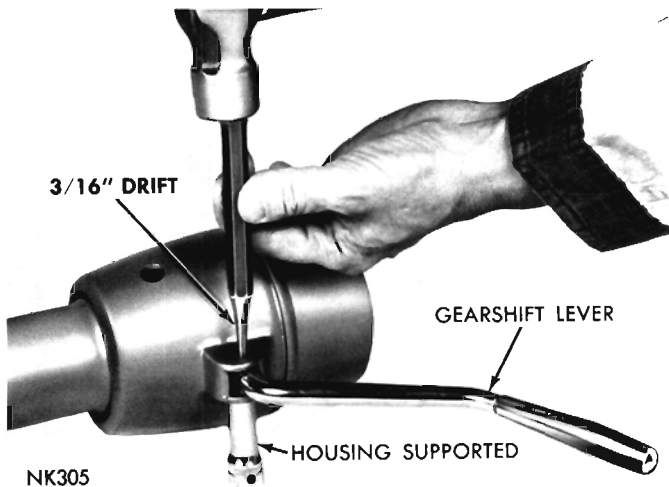

Fig. 10—Removing or Installing Gearshift Lever
(6) Support the gearshift housing on a small socket, drive out the roll pin and remove the gearshift lever (Fig. 10).
(9) With the gearshift housing in NEUTRAL position, insert the gearshift lever. Support the gearshift housing (Fig. 10) while driving the shift lever roll pin into place.